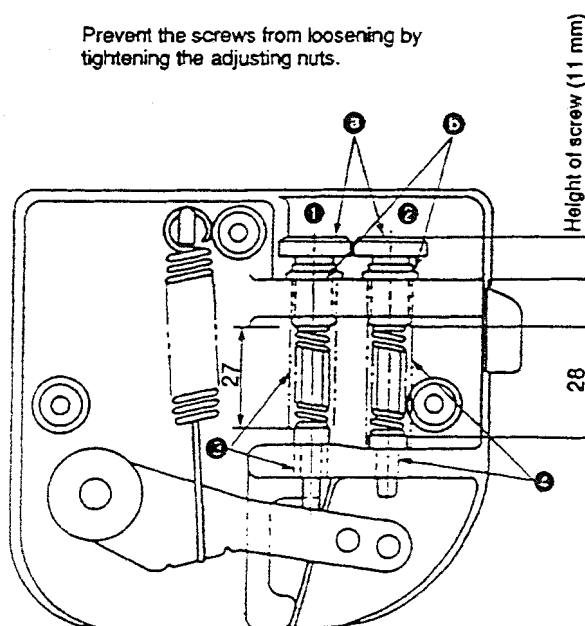

Fig. 2 Pedal sensor B asm.
- 2) Attach spring shaft B, spring B, adjusting screw and adjusting nut to side **(2)** shown in Fig. 2 following the procedure same as step **(1)**.
Adjust the height of spring which has been changed to adapt to the auto-lifter controlled by the pedal (PFL type). Adjust the length of the spring located on side **(1)**, in Fig. 2, to 27 mm and that of the spring located on side **(2)** to 28 mm using pressure adjusting screws **(a)**. After the adjustment, tighten pressure adjusting nuts **(b)** to prevent pressure adjusting screw **(a)** from loosening.